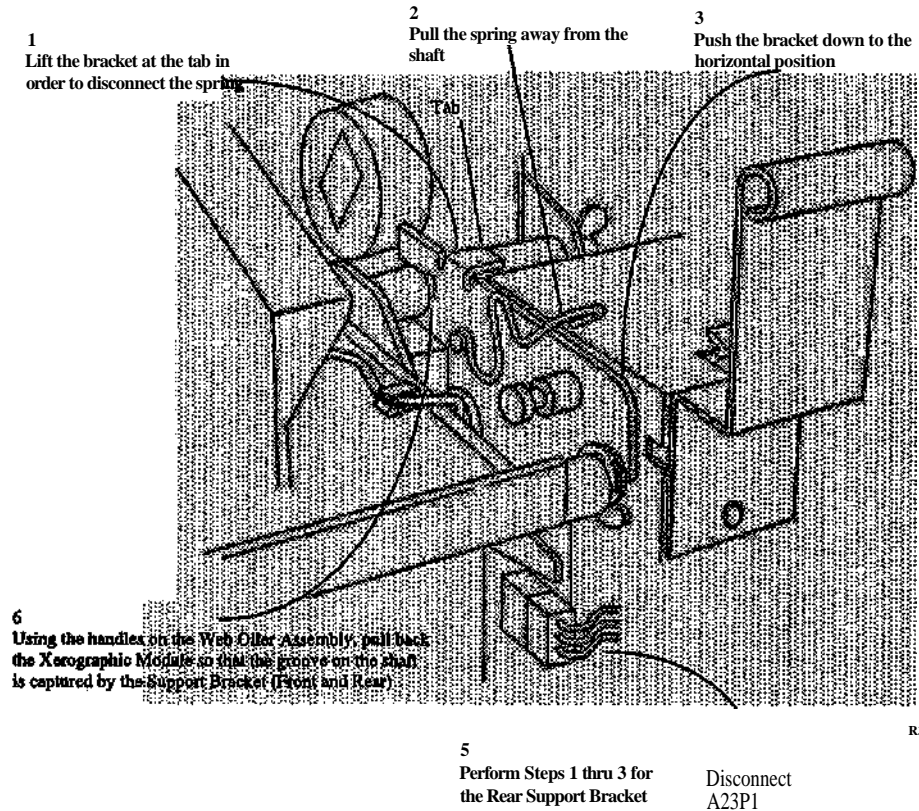

Figure 1. Preparing the Support Bracket
NOTE: Figure 1 shows only the Front Support Bracket.
5. (Figure 1): Prepare the Front and Rear Support Brackets for raising the Xerographic Module to the Service Position.